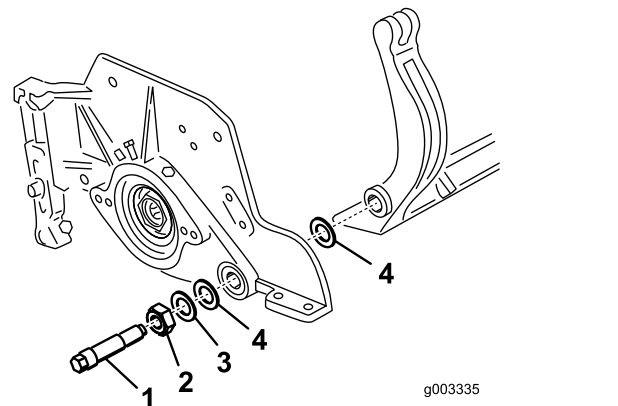

**Figure 32**
- On each side of the machine, loosen the locknut securing the bedbar bolt (Figure 32).
- Remove each bedbar bolt, allowing the bedbar to be pulled downward and removed from machine bolt (Figure 32).